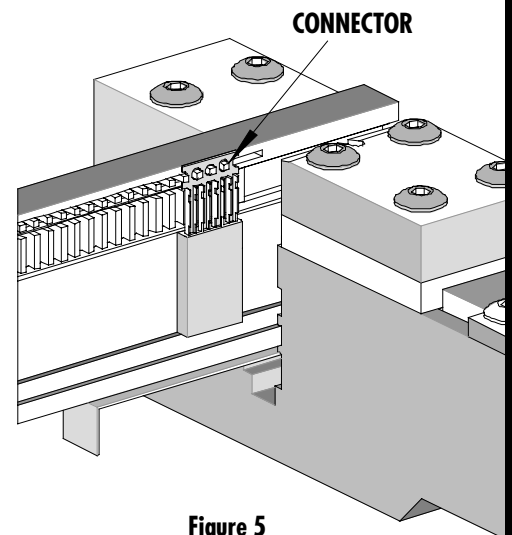

Figure 5
3. Load a connector onto the connector slide by engaging the holes in the carrier strip onto the locating pins in the slide. See Figure 5. Make sure the first terminal on the connector is over the first termination position to the right on the connector slide.